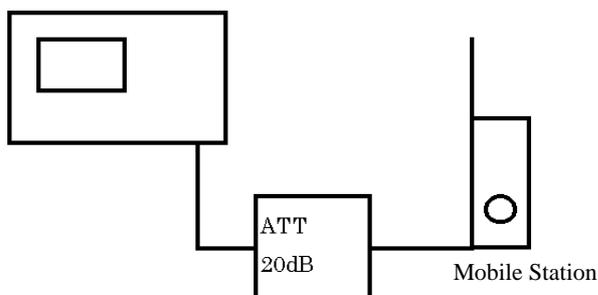

Figure 2-1 Connections for GSM Measurements
1. Connect the instrument as shown in Figure 2-1.